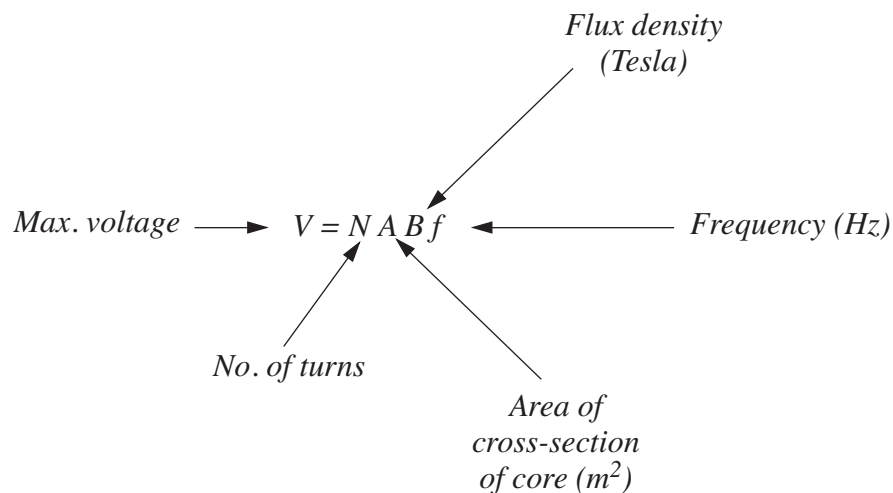

FIG. 14(b)
- (ii) The relationships given in FIGURE 14(b) below.